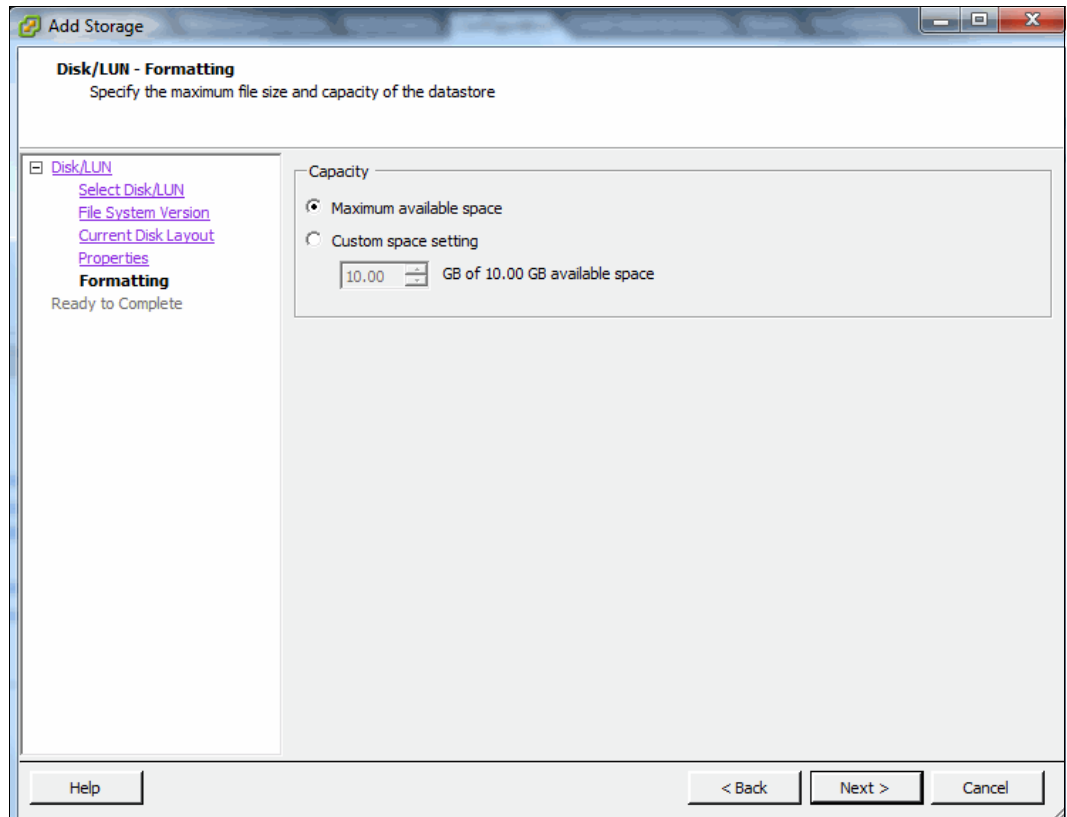

Figure 5-69 Selecting how much of the available disk space to use
7. Select how much of the available disk space to use and click **Next**, as shown in Figure 5-69.